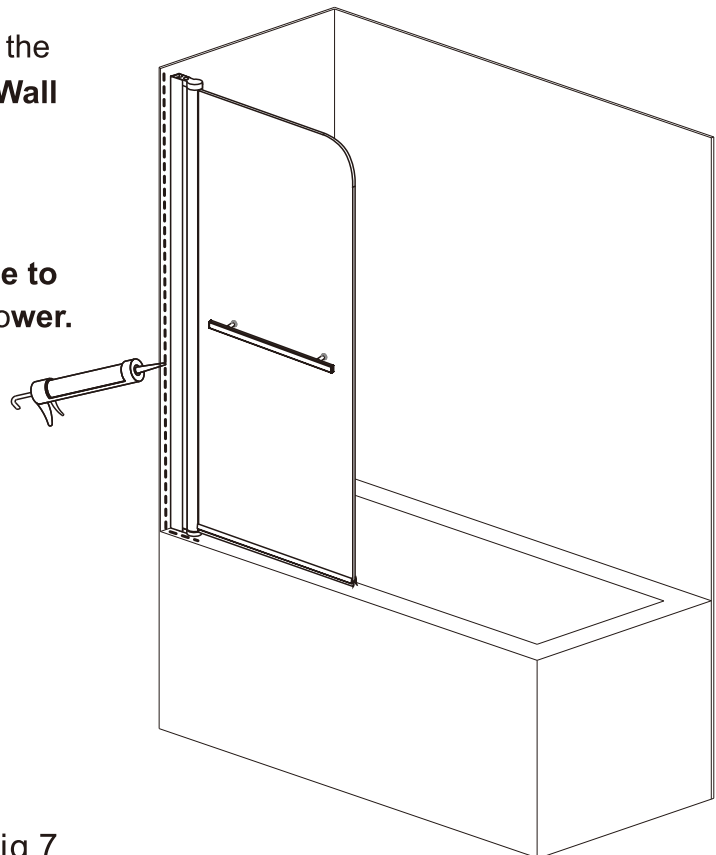

Fig 7
1. Apply a good quality Silicone Sealant at the outer corner formed by the wall and the **Wall Post [01]** and hinge. (Fig 7)